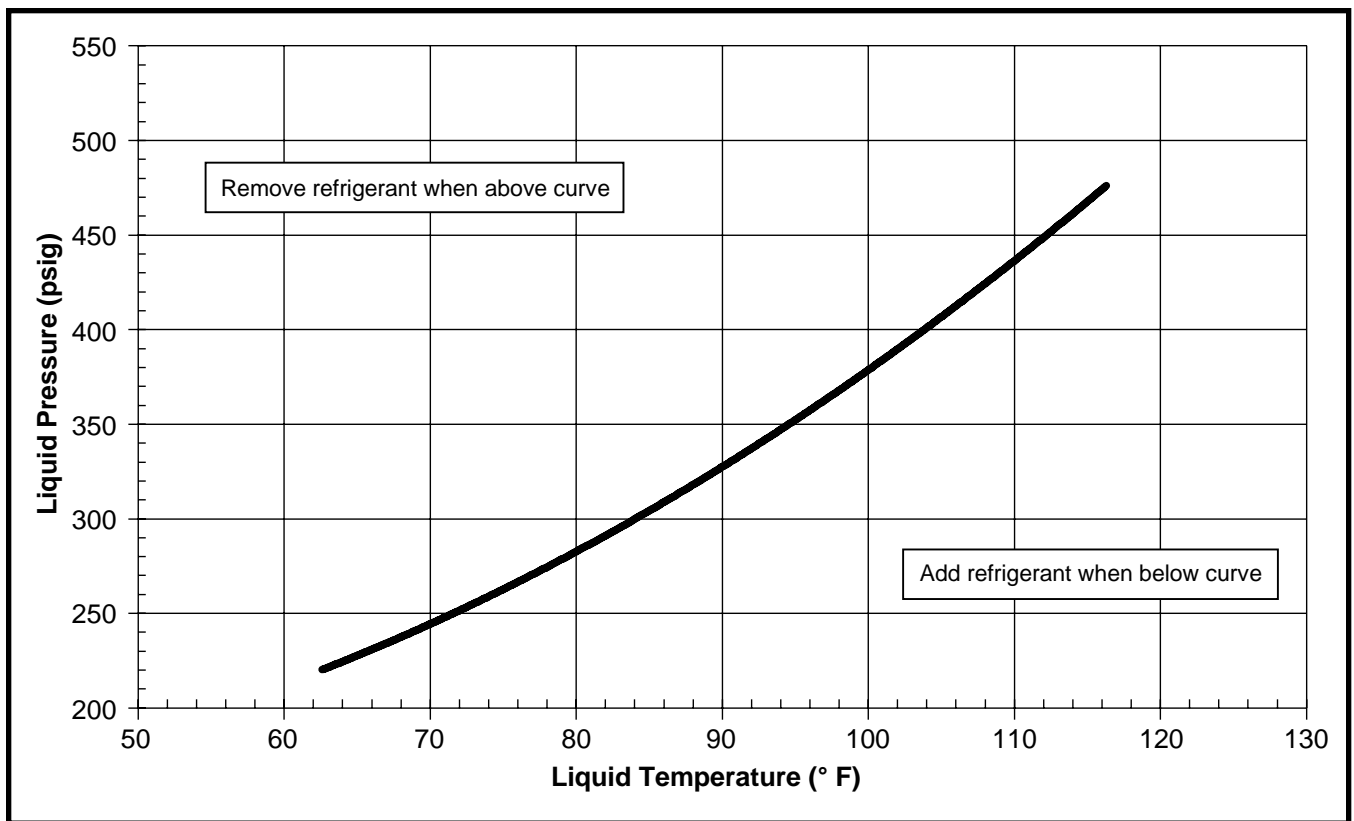

Figure 19. Charging Chart for 2 Ton Units
5. Using the temperature value recorded, determine the corresponding liquid refrigerant pressure from the curve in the appropriate charging chart. See Figures 19 - 22 pages 37 & 38.
The charging charts (Figures 19 - 22 pages 37 & 38) are valid for a variety of indoor, return air conditions and are most highly influenced by the outdoor ambient temperature, outdoor fan operation and the unit operating voltage. Before referencing the charts, always make sure that the compressor circuit is energized on nominal speed (Y1 & Y2 energized) and has stable operation. As can be seen in the charging charts, the ideal system sub-cooling can vary over the range of operation. Always reference the charts to determine the ideal amount of sub-cooling for a given liquid pressure. Units charged to other values will not perform at the rated unit efficiency (EER).